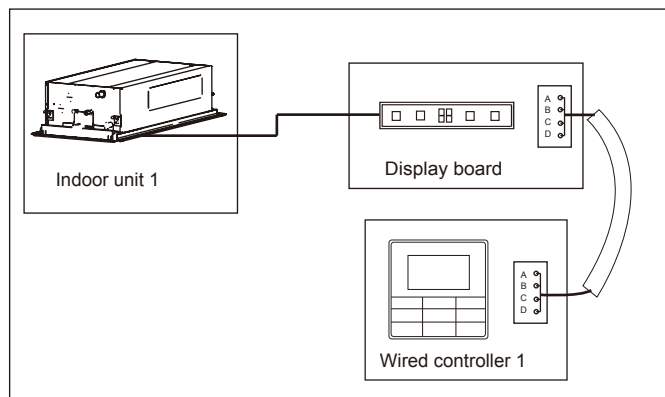

Figure 6.9
- ◆ Use 1 wired controller to control 1 indoor unit (see Figure 6.9).